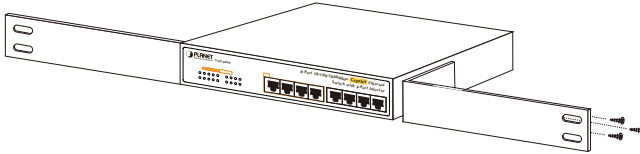

Figure 3-1: Attaching the brackets to the Switch.
Step 2: Attach a rack-mount bracket to each side of the Switch with supplied screws attached to the package. Figure 3-1 shows how to attach brackets to one side of the Switch.